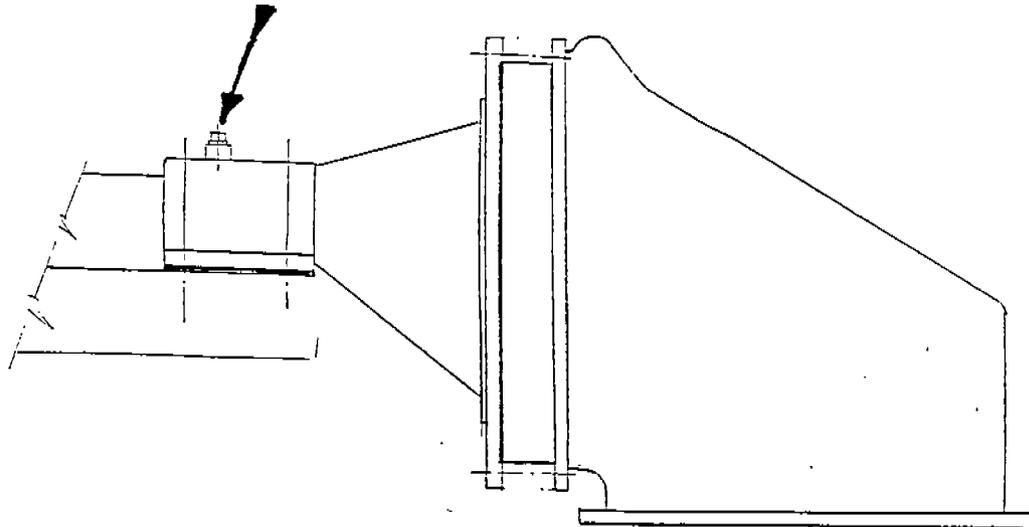

Figure 13. Intake Vacuum Location
24. () Connect a manometer or magnehelic (vacuum gauge) to the intake vacuum port shown in Figure 13. Run the engine at full throttle with no load. The intake vacuum does not exceed 25" of water.